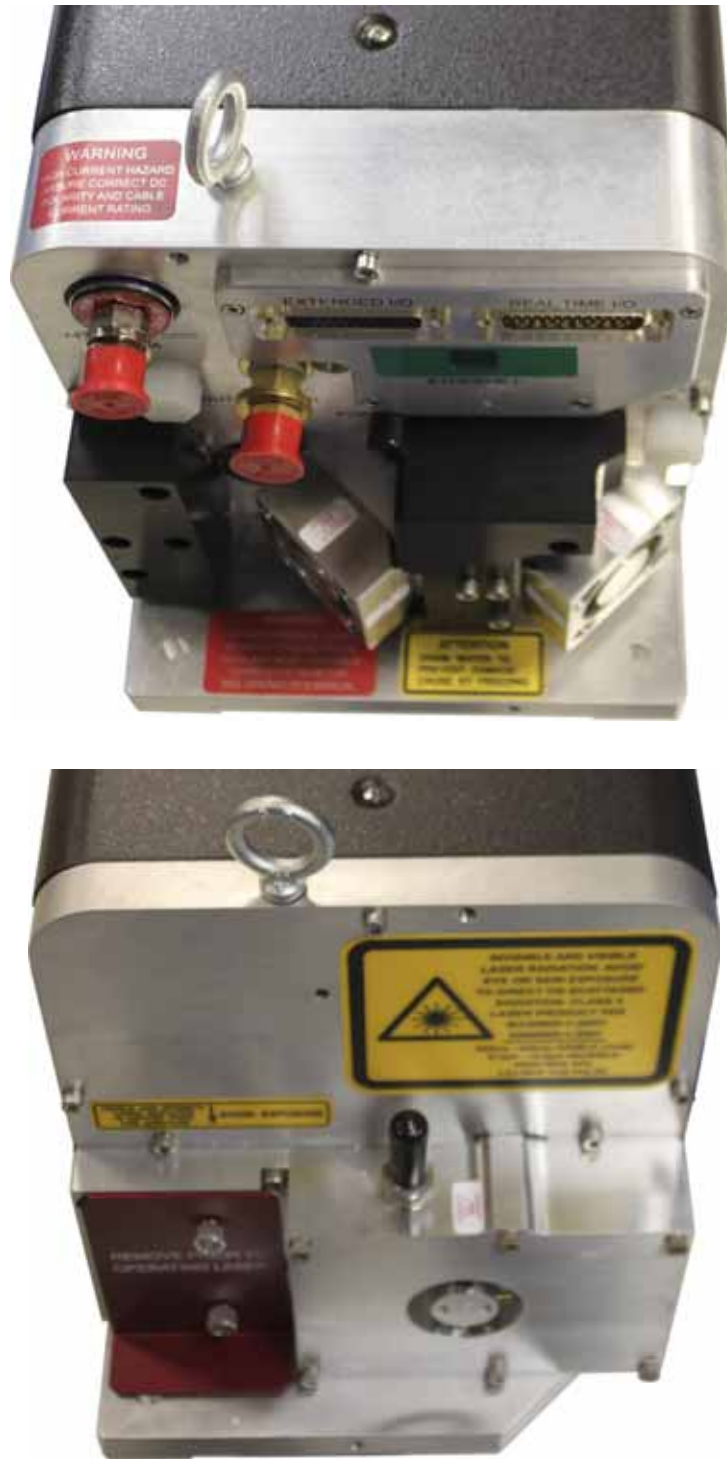

Figure 3-10. Eyebolts Installed in Laser System
3. Insert the supplied eyebolts into the holes as shown in Figure 3-10.